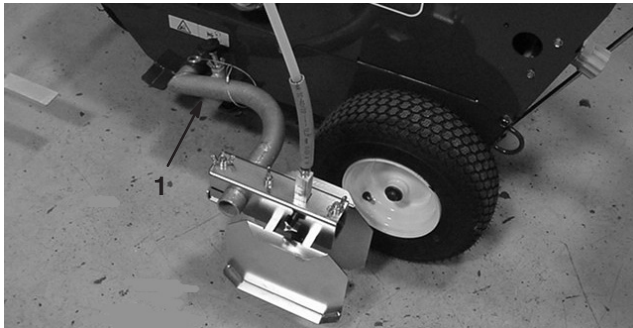

Figure 6
1. Slide the spray boom onto the mounting tube and secure with the mounting pin (Fig. 6). The spray boom may be installed on either side of the machine and pivoted to the front or rear.